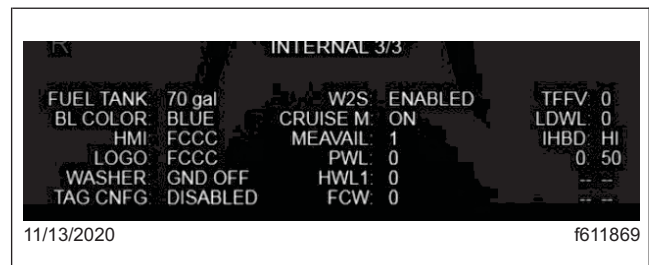

Fig. 17, Internal Diagnostics, Screen Three
8. Scroll down to page three of the Internal Diagnostics screens, shown in Fig. 17, and confirm that the values displayed match the settings for that group in Table 2.